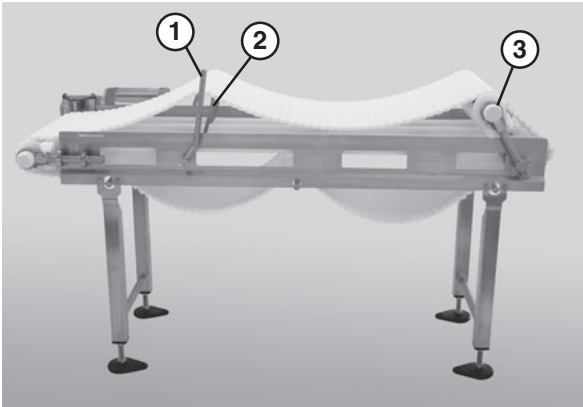

Figure 54
2. Use the lifter handle (**Figure 54, item 1**) to raise the lifters (**Figure 54, item 2**) and raise the tip up tail (**Figure 54, item 3**).